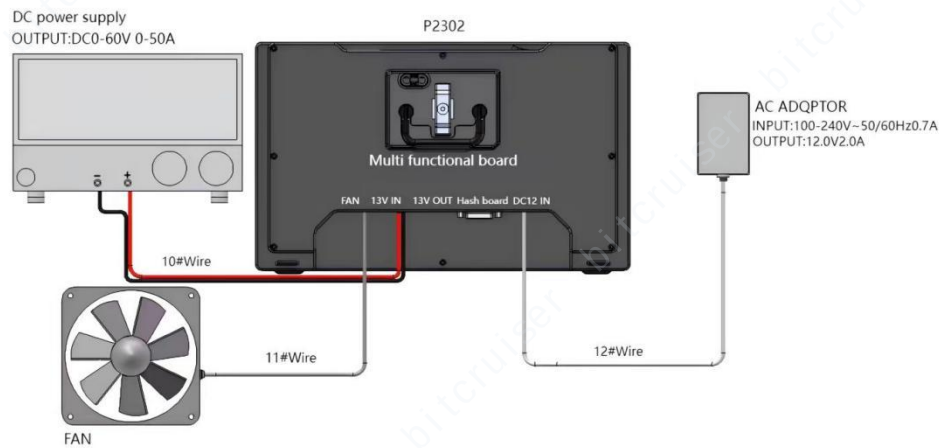

Fig 4.7 Fan Test Connection Diagram
Step 3: Use the 11# wire to connect the fan under test to the corresponding FAN interface on the multi-function expansion board (rear of the instrument) via the fan adapter board. The specific connection diagram is shown in Fig 4.7.